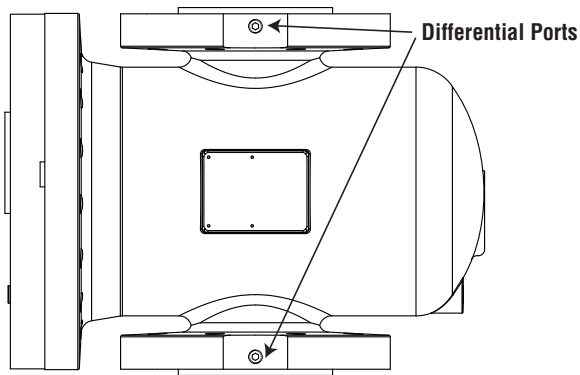
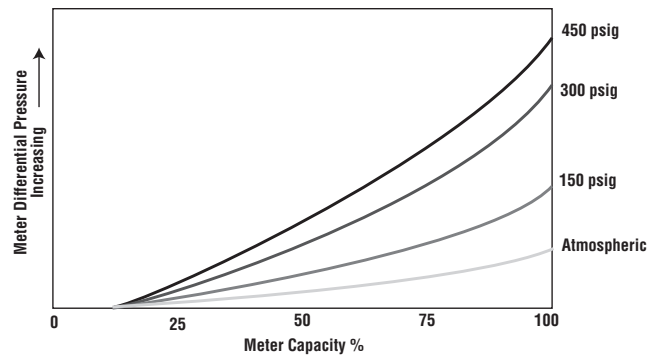

Figure 16 - Differential pressure taps are located above and below the meter nameplate.
Figure 17 - Differential Curves change as pressure increases.
A differential test consists of a series of differential pressure readings taken across the meter's differential taps at several gas flow rates within the meter's capacity range. Location of meter differential taps is shown in Figure 16. Testing should be performed when the meter is first installed and under the actual conditions of gas line pressure and specific gravity that will exist in service. This is particularly important when the line pressure is higher than 15 PSIG (200 kPa Absolute). Since the meter differential pressure increases with line pressure, multiple curves may be necessary for meters under varying pressure conditions. Refer to Figure 17.
Developing an original differential baseline curve is recommended at the time of meter initial installation. Since an increase in flow rate, line pressure or specific gravity will cause an increase in the differential, at least three (3) test points are required at gas flow rates from 25% to 100% of meter capacity. As shown in Figure 17, the resulting data points will be non-linear, so a minimum of three points is necessary to establish a curve. Plot the points on a graph and then connect the points to form a curve. This provides an accurate baseline for comparison to later tests. To help with record keeping, a chart like the one shown in Figure 18 will allow the technician to compare new test data to older data.